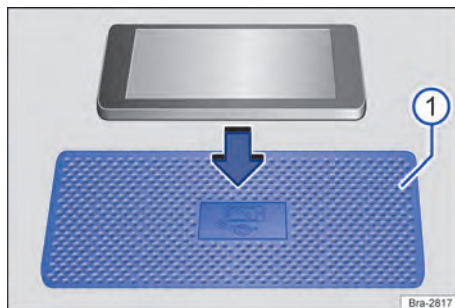

Fig. 145 Shelf with lining mat for the wireless charging function (illustration).
In some vehicles, the lining mat has a telephone symbol which marks the centre position → Fig. 145 ①. The symbol on the lining mat may look different in some vehicles.